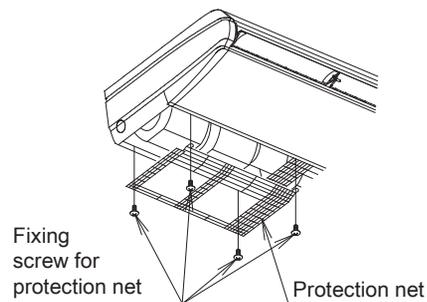
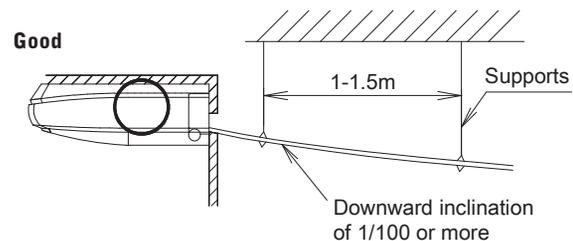

Fig. 22
Fig. 23
- When conducting left rear/left side drain piping, remove the protection net. Then, remove the drain socket cap and insulation material applied to left side drain socket and apply them to the right side drain socket. When doing this, insert the drain socket cap all the way in to prevent a water leakage. After the drain hose (1) (accessory) is installed, attach the protection net by reversing the steps taken to remove it. (Refer to Fig. 22)
- Select the piping diameter equal to or larger than that of the drain hose (1) (accessory) (polyvinyl chloride piping, nominal diameter 20mm, outside diameter 26mm).
- Install the drain piping as short as possible with downward inclination of 1/100 or more and without where air may stagnate. (Refer to Fig. 23 and 24)
- Install supports at a distance of 1 to 1.5m so that the piping may not deflect. **(Refer to Fig. 23)**